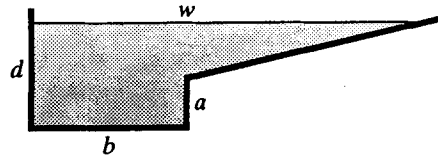

Figure X10.3.6
10.10 Refer to Fig. X10.3.6. Find the flow rate at water depths of 1, 2.5, 4, 5.5, and 7 ft if $n = 0.025$ and $S = 0.0020$. The dimensions are as follows: $a = 4$ ft, $b = 5$ ft, $d = 7$ ft, and $w = 35$ ft.